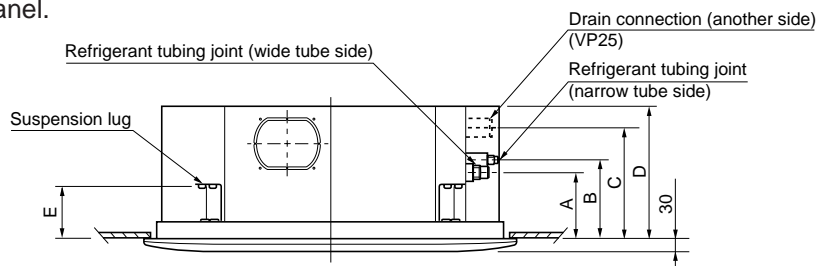

Fig. 2-3
- (3) Determine the pitch of the suspension bolts using the supplied full-scale installation diagram. The diagram and table (Fig. 2-3 and Table 2-2) show the relationship between the positions of the suspension fitting, the unit, and the panel.